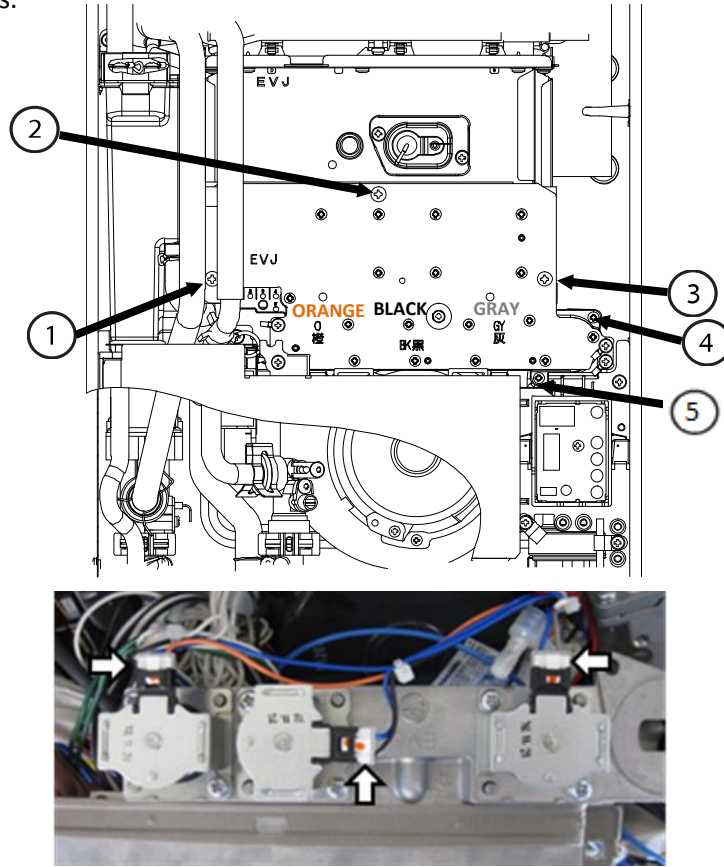

FIGURE 2
- 6) Remove the manifold plate by locating 5 screws as indicated in Figure 2. Do NOT use a power drill. Discard the original manifold plate.
- 12) Reconnect all three connectors to the electrical solenoids on the manifold from the locations indicated in Step 7, Figure 2.
- 13) Secure the new manifold plate to the unit using the screws removed in Step 6. The screws need only to be hand tightened and should not be tightened using a drill. First, insert screws 1-5 from Figure 2, but do not fully tighten these screws. Once all screws are inserted, proceed to completely tighten screws 1-5.